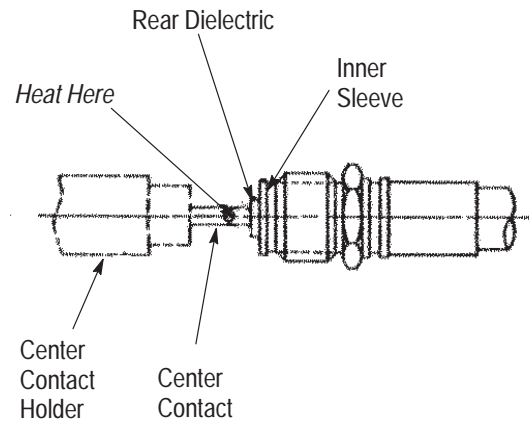

Figure 5
## 2.3. Soldering the Center Contact to Cable Inner Conductor (Figure 5)
*The large diameter of the contact must rest firmly against the rear dielectric. See Figure 5.*